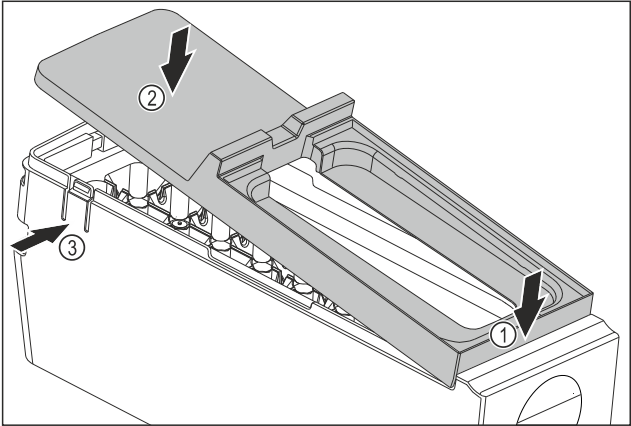

Fig. 123
- ▶ Installing the EasyTwist-Ice body cover: Place the cover on the front. Fig. 123 (1)
- ▶ Lower the cover at the rear. Fig. 123 (2)
- ▶ The cover locks into both tabs Fig. 123 (3) audibly.